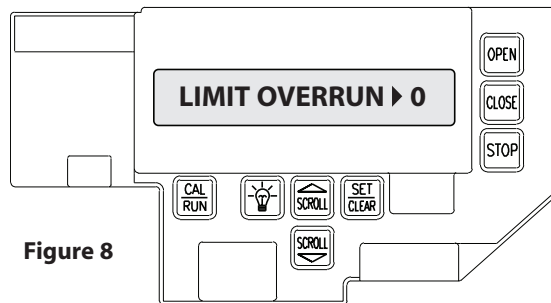

Figure 8
- 2) Press scroll (▼) until the display reads "LIMIT OVERRUN >(0-9)." **Fig. 8.**